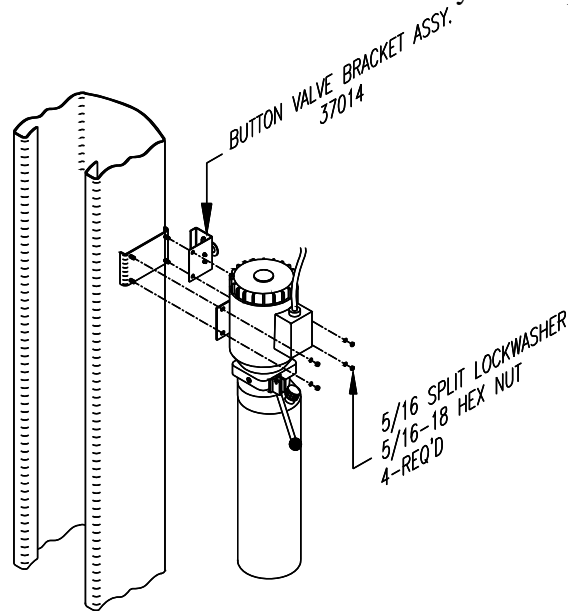

Figure 7
13. Install the power unit and button valve bracket assembly on the power column (Fig 7).